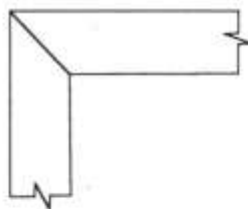

Figure 3
- 10 **Figure 3** shows a mitred bridle joint.